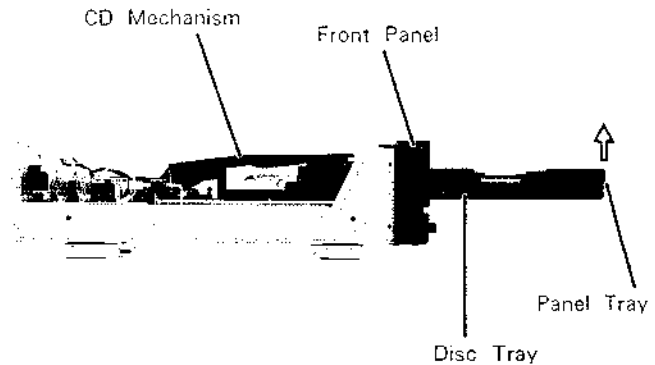

Figure 1
In Figure 1, all the track numbers are displayed and the track about to be played is displayed as 1 near the "DISC" () symbol.
- (1) After removal of the top cover, open the disc tray as shown in Figure 1.
- (2) Remove the panel tray in the arrow direction as shown in Figure 1.